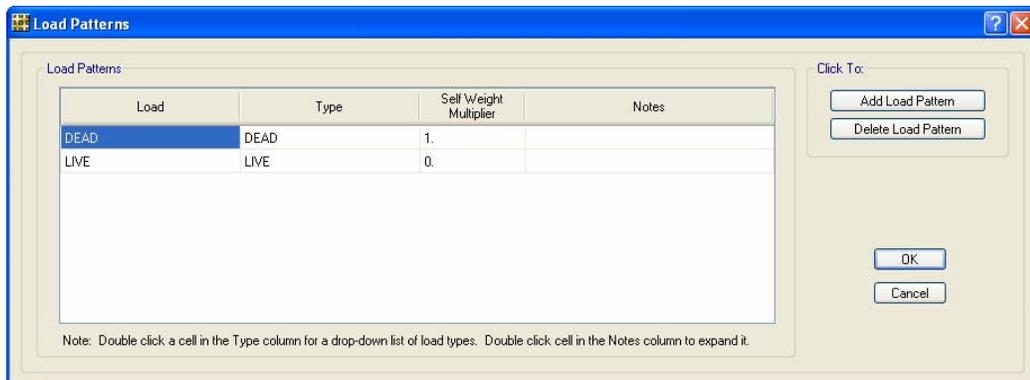

Figure 66 Load Patterns form
A. Click the **Define menu > Load Patterns** command to access the Static Load Case Names form shown in Figure 66.